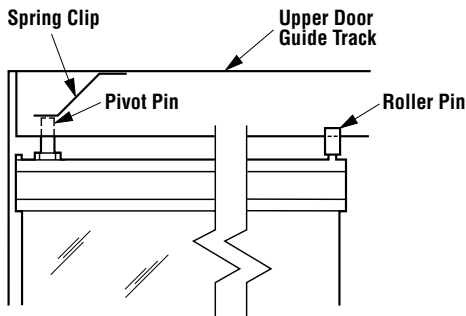

Figure 3
Step 3. Continue to tilt the top of the door into place until the upper pivot pin engages the spring clip and the pivot pin locks into place within the hole of the spring clip (see Figure 3).